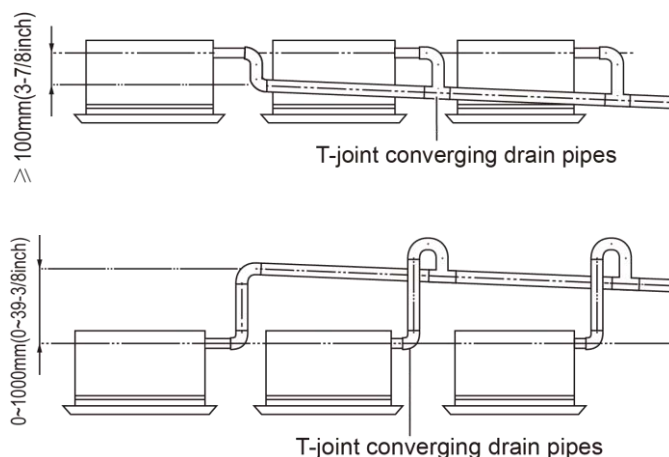

Figure 3-1-51
- (3) When unifying multiple drain pipes, install the pipes as Figure 3-1-51. Select converging drain pipes whose gauge is suitable for the operating capacity of the unit (take the cassette type unit for example).